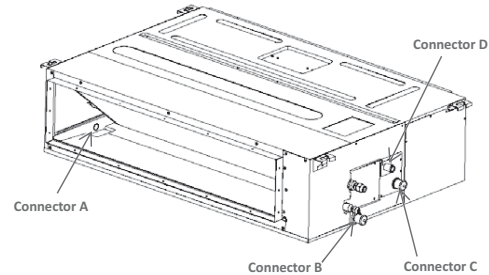

Fig. 21 — Connection of drain pipe to condensate lift pump sizes 24-58K
- Connect the drainpipe to connector D (see Fig. 21).